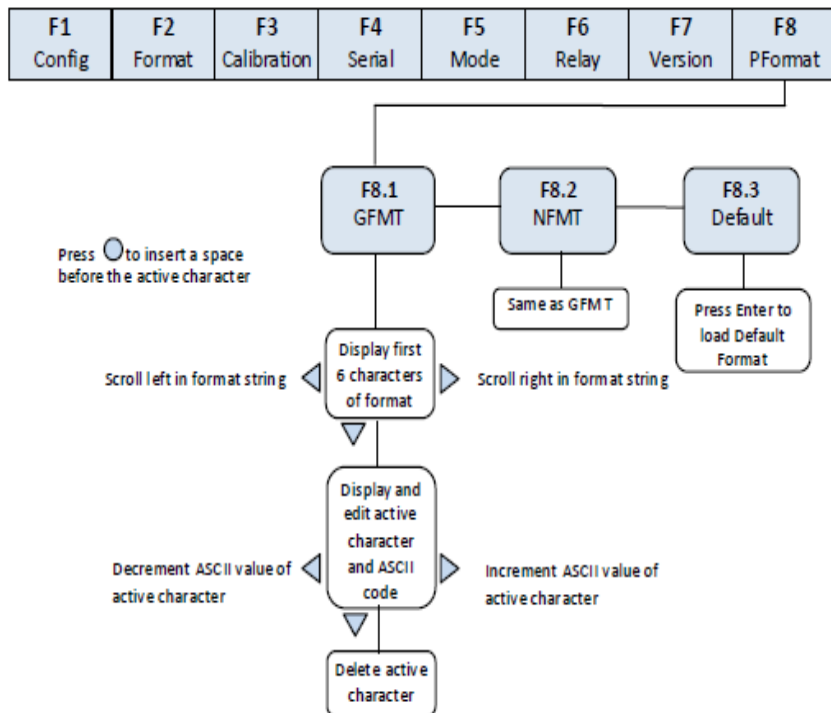

Fig. 13.2.1 Print Format Input Flow Diagram
- (1) Turn on the SW2 switch to set indicator to the Configuration mode (display shows “F1”)
- (2) Press  to show “F8” (see Fig. 13.2.1). Press  to Print Format Menu and display shows “F 8.1”.
- (3) When display shows “F8.1”, press  again and display shows the first 6 digits of GFMT format.
- (4) Use ,  to move the cursor to different flashing digits. When it is at the far right position, press  again, the first digit at the left is removed and another digit prompts up at the right. When it is at the far left position, press , the last digit at the right is removed and another digit prompts up at the left. Press  to add a space to the left of the flashing digit.
- (5) When the cursor is at a certain digit position, press  to edit. Display shows the characters as shown in Appendix 15.5. “\_.” is shown for characters not available in Appendix 15.5.
- (6) While editing, use ,  to move between characters. To delete a character from the string press . Once deleted the indicator will return to F8.1.
- (7) When character editing is completed, press  to return to (4) above and to perform editing other characters. When finish editing, press  to return to F8.1 and display shows “F8.1”.
- (8) Press  to go to F8.2 Menu and display shows “F8.2”. Refer to (3) to (7) for format editing of NFMT.
- (9) After finishing, turn off the SW2 switch to exit from Calibration mode and enter into Weighing Mode.
- (1) Turn on the SW2 switch to set indicator to the Configuration mode and display shows “F1”.
- (2) Press  until display shows "F8" (see Fig. 13.2.1). Press  to go to Print output menu and display shows "F8.1".
- (3) When display shows "F8.1", press  twice and display shows "F8.3".
- (4) When display shows "F8.3", press  to show "Set?". There are 2 options then:
- (5) Turn off the SW2 switch to exit from Calibration mode and enter into Weighing Mode.
- (1) Turn on the SW2 switch to set indicator to the Configuration mode. Display shows "F1".
- (2) Press  until display shows "F7" (see Fig. 13.2.1). Press  to go to F7.1 Menu. Display shows "F7.1"